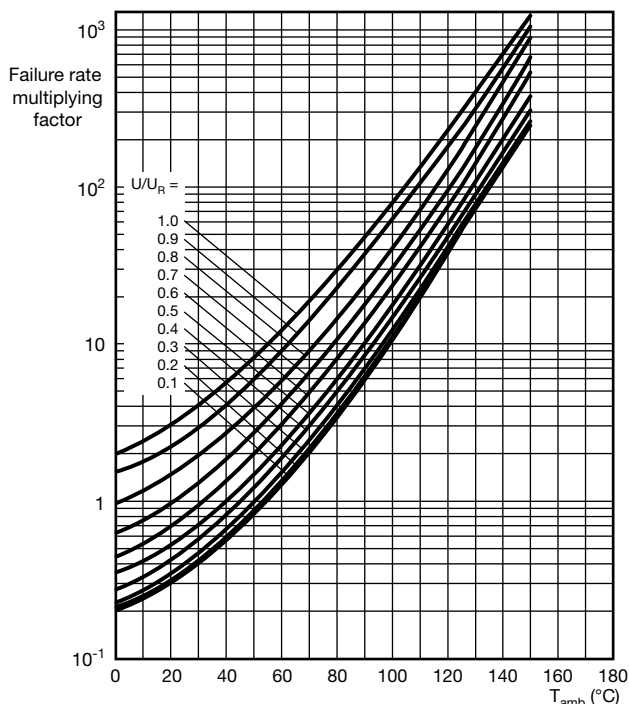
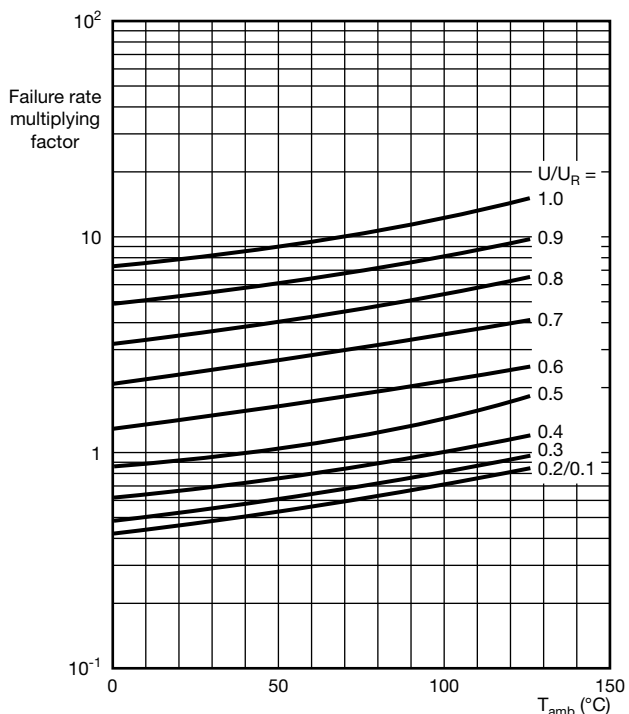

Fig. 18 - Conversion factors for failure rate (λ) as a function of ambient temperature (T_{amb}) and voltage ratio (U/U_R) for non-solid aluminum capacitors
Fig. 19 - Conversion factors for failure rate (λ) as a function of ambient temperature (T_{amb}) and voltage ratio (U/U_R) for solid aluminum capacitors
- Wear-out period, showing an increasing failure rate due to gradual deterioration. For aluminum capacitors with non-solid electrolyte, the onset of this period can be calculated with the nomogram (see Fig. 18).
In order to calculate λ for other operating conditions, the value for the failure rate multiplying factor, $\text{mult}(T, U/U_R)$ in the formula above, must be taken from Fig. 18 (non-solid aluminum capacitors) or Fig. 19 (solid aluminum capacitors).